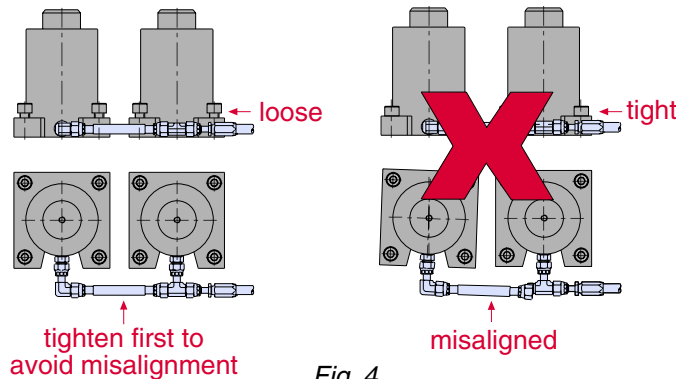

Fig. 4
- When using solid fittings tighten fittings before bolting cylinders down, see Fig. 4.